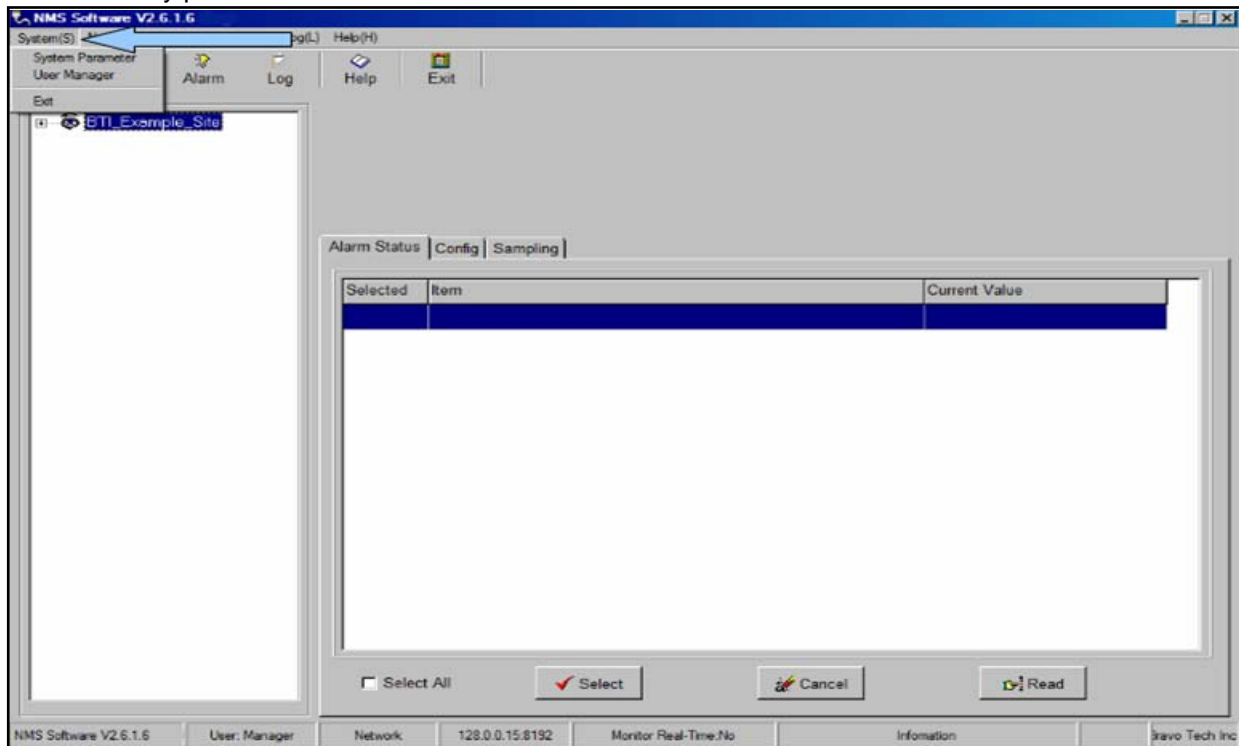
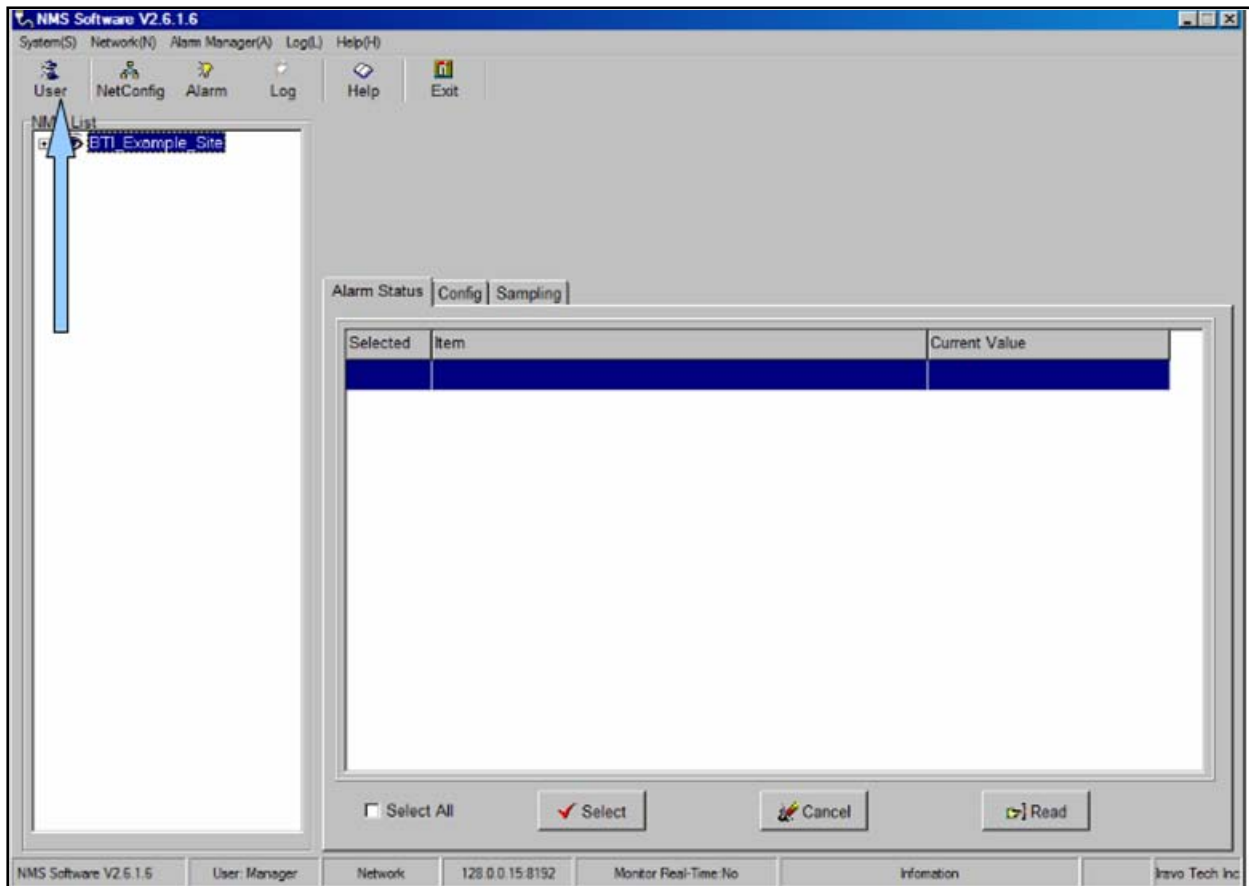
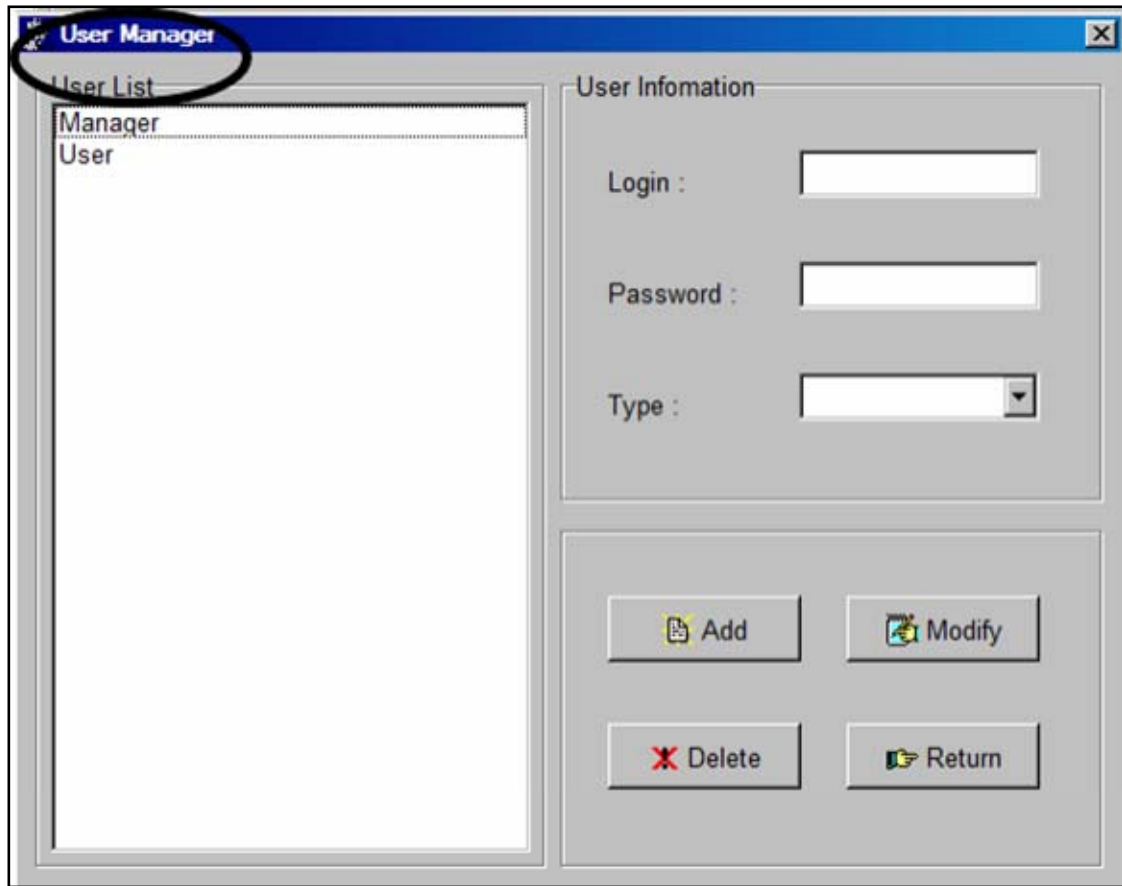

Figure 4-34. System (S) Drop Down Menu
Figure 4-35. User Account Icon
Figure 4-36. User Manager Screen
Main access to the NMS software configuration is through the *System(S)* drop down on the Menu bar as shown in **Figure 4-34**. User accounts may also be accessed through the User Icon on the Command toolbar as shown in **Figure 4-35**. The software system configuration includes the ability to access the
1. Using either the System(S), **Figure 4-34** or the User icon, **Figure 4-35**, access the User Manager screen, **Figure 4-36**.